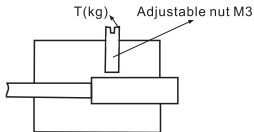

Fig. 18
2. Mounting for cylinder type : Adjusting torque range 2-4kgf-cm.(Fig.18)